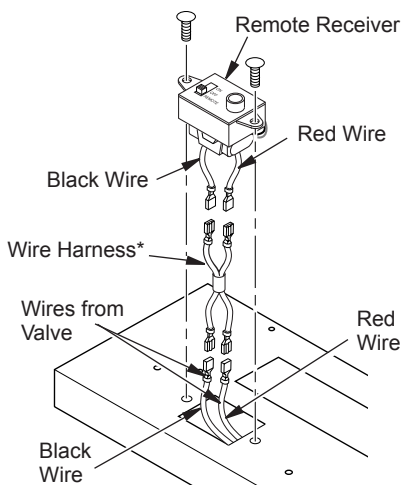

Figure 30 - Installing Remote Receiver
8. Install remote receiver unit onto fireplace base using two screws removed in step one (see Figure 30).